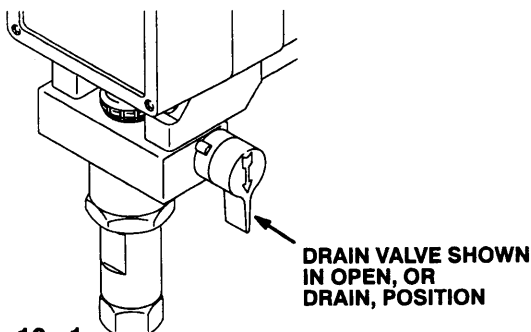

Fig 10-1
1. **Open the pressure drain valve.** See Fig 10-1.
7. **To prime the hose,** lower the pressure to reduce splashing. Hold a metal part of the gun firmly against and aimed into the side of a grounded metal pail. See Fig 10-1. Hold the trigger open and slowly increase the pressure until the pump starts. Keep the gun triggered until all air is forced out of the system and the fluid flows freely from the gun. Release the trigger and engage the gun safety latch.